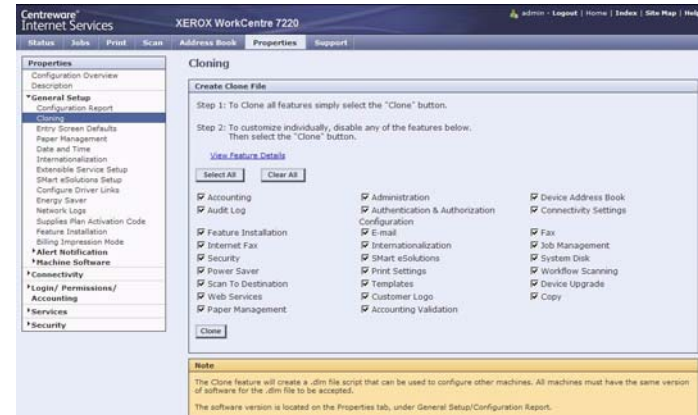

Figure 1 Cloning Screen
3. When **Centreware® Internet Services** opens, select the **Properties** Tab. Click on the **General Setup** link, then **Cloning** (Figure 1).
5. Select the **Clone** button under the **View Feature Details** link (Figure 1).